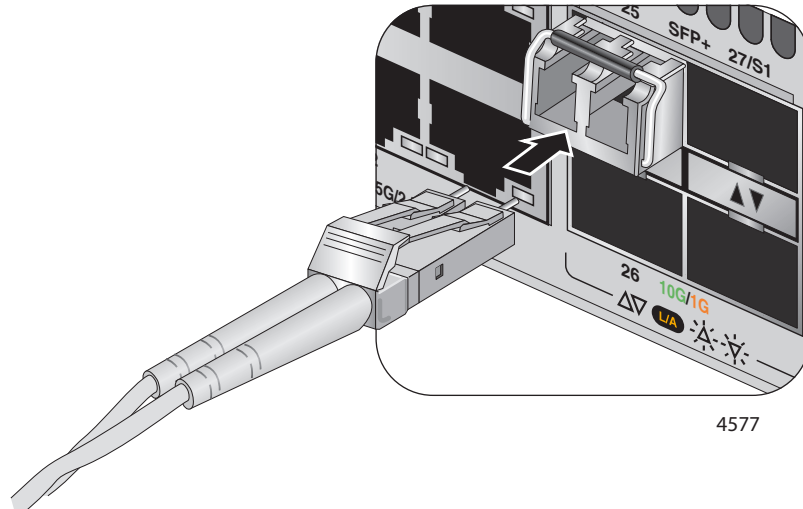

Figure 63. Connecting a Fiber Optic Cable to an SFP or SFP+ Transceiver
6. Connect the fiber optic cable to the transceiver, as shown in Figure 63. The connector on the cable must fit snugly into the port, and the tab must lock the connector into place.